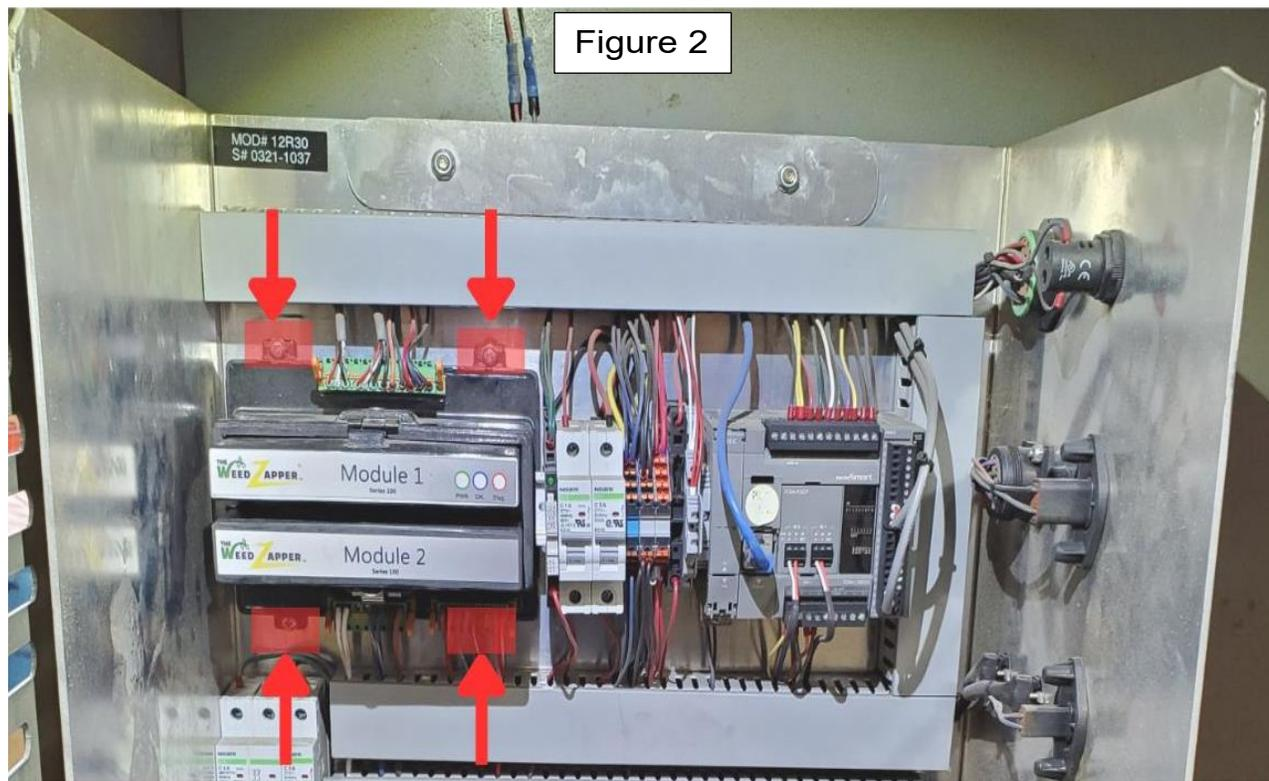

Figure 3
5. Located to the right of the old module is a small plastic, grey clip that stops the two small breakers from sliding off the aluminum Din Rail. Remove the clip. (see Figure 3)
6. Try fitting the new module in the old location. In most cases the new module can be maneuvered in place by allowing the aluminum Din Rail to go between the plastic base of the module and the aluminum cover portion with label. If it won't fit, it may be necessary to trim about 1/8" off the aluminum Din Rail with an angle grinder. (see Figure 3)